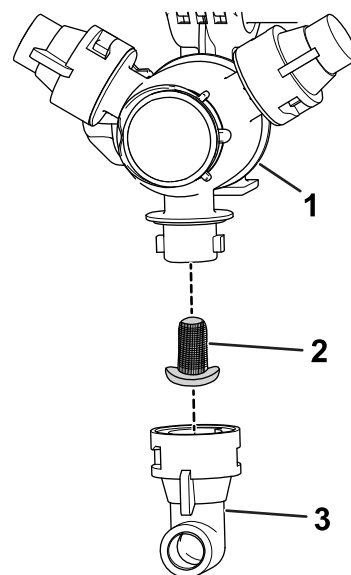

Figure 45
2. Remove the nozzle from the spray turret (Figure 45).
3. Remove the nozzle filter (Figure 45).
5. Install the nozzle filter (Figure 45).
6. Install the nozzle onto the spray turret (Figure 45).